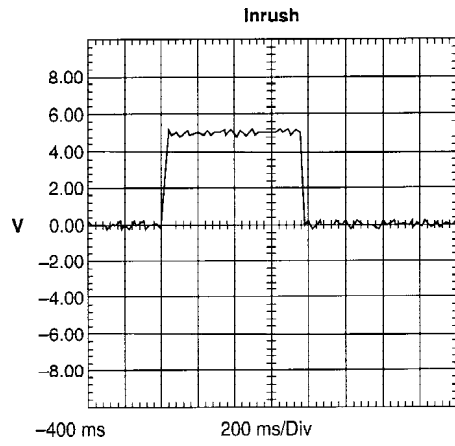

Figure 9
INRUSH - This signal is sent from the Control Card to a 4 input NOR gate that is then sent to the low voltage side of the opto-isolator for the SCR's gate. It is also used for gating the internal 24 volt fans. Reference figure 9.
8. Short the SCR Gate-Cathode connections by inserting the SCR Jumper Plug into the end of the MK6 cable (See Figure 9).